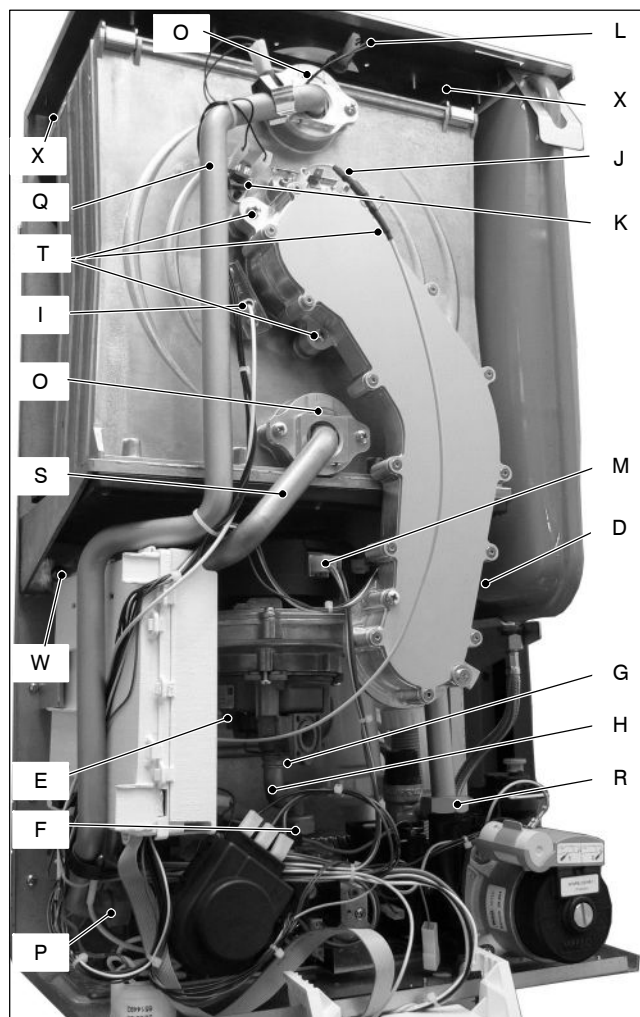
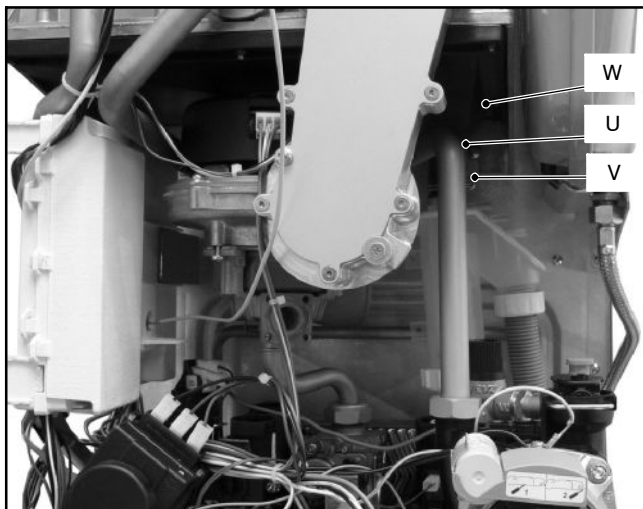

Fig. 5.2
Fig. 5.4
- 4 Disconnect the air manifold *D* (Fig. 5.2) by pulling it.
- 8 Unscrew the screws and remove the detection electrode connector *I* (Fig. 5.2)
- 16 Remove the forks *O* (Fig. 5.2).
- 21 Using pliers, remove the spring *U* moving it downwards and disconnect the rubber pipe *V* (Fig. 5.4).
- 22 Loosen the screws *W* (Fig. 5.4 – Fig. 5.2)
- 23 Unscrew the screws *X* (Fig. 5.2).
- 24 Remove the Condensing heat exchanger slightly move it upwards, turn it frontwards freeing it from the below screws *W* (Fig. 5.4 – Fig. 5.2) and then extract it forwards.
**Ensure to tight the screws *T* – Fig. 5.2 firmly**